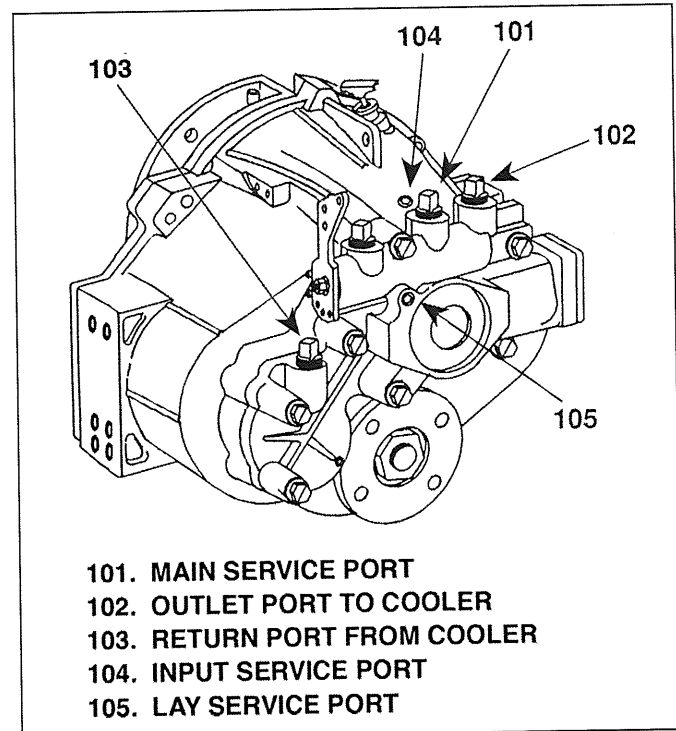

Figure 2-5: Service Port Locations
2-18 CONTROL VALVE AND PUMP ASSEMBLY PRESSURE TEST Perform the following test to determine if the control valve and pump assembly is functioning properly (see figure 2-5):
2. Remove the sensor or plug installed in the sensor port (101) and install 0-100 psi (690 kPa) gauge in 3/8-18 NPSF thread port. Remove to-cooler hose from outlet port (102) and install a minimum 10 gal/min (38 lt/min) flow meter. Be careful to follow the flow meter manufacturer's instruction. (see figure 2-5)